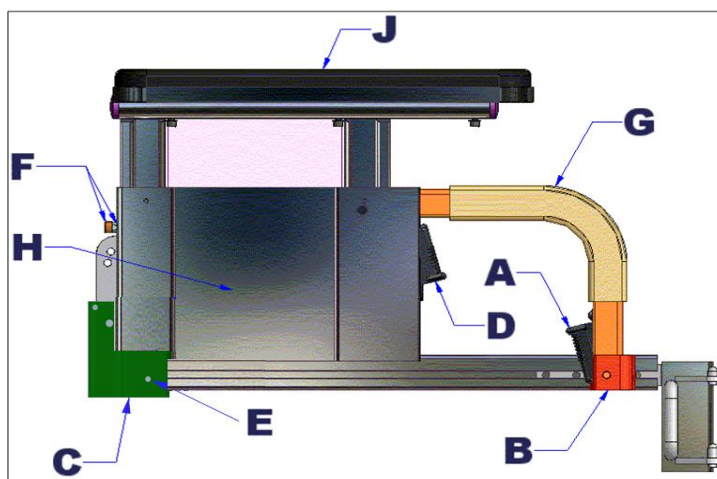

Figure 33-A: Height adjustable U-shaped arm supports.
- 1- Using an 8 mm open-end wrench and a 4 mm Allen wrench, slightly loosen the lock nut and screw (F) on the arm support side panel (H) (see Figure 33-A).
- 1- Press down on the lock (D) to release the telescopic tube.
- 3- Close the lock (D) by pushing it up and towards the back of the wheelchair.
- 4- Hand-tighten the black clamping screw (F).
- 1- To retract the arm support, press the joystick (A), and then grasp the transfer support (G) with an upward motion (see Figure 33-A).
- 2- To fold down the arm support, align the transfer support (G) in the base (B), and apply downward pressure. You may need to apply slight pressure to the joystick (A) to allow it to lock.
- 3- After replacing the arm support, make sure the arm support is locked into the base (B) by trying to lift it with the transfer support.
- 1- Following the procedure in Section 5.3.1, slightly retract the arm support from its front base (**B**) (see Figure 33-A).
- 1- Using an *8 mm open-end wrench* and a *4 mm Allen wrench* (see Figure 33-A), slightly loosen the lock nut and screw (**F**) on the arm support side panel (**H**).